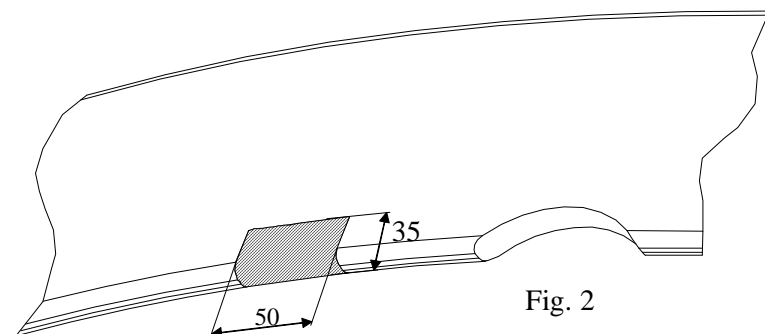

Fig. 2
- 2) Cut out fragment of the bumper in his bottom part, in axis – see fig. 2).
- 3) To left chassis member fix element pos. 4 through holes A using bolts M12x40mm(pos. 7) - loosely, next through technological hole put nut with handle in that way so nut tally with hole B and next fix using bolt M12x40mm (pos. 7).
- 4) To right chassis member fix element pos. 3 (fix as element pos. 4).
- 5) Between installed elements put main bar of the towbar pos. 1 and fix all using bolts M12x40mm (pos. 7).